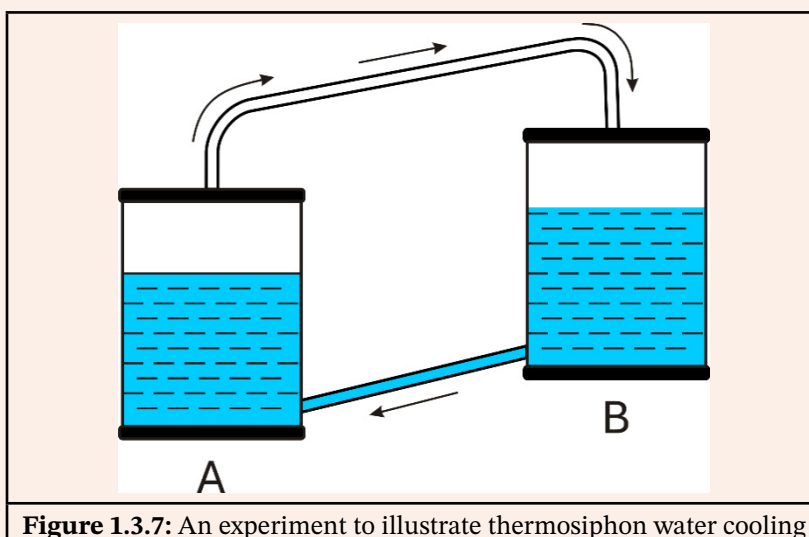

Figure 1.3.7: An experiment to illustrate thermosiphon water cooling
1. Connect one piece of tubing to the tops of the two containers as shown in **Figure 1.3.7**.